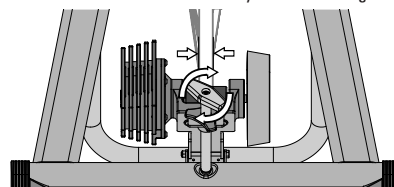

Figure 6.
Ensure that your tyre is centred on the orange roller to within 10mm (3/8 inch) from the centre of the orange roller. Your tyre must have a minimum 5mm (3/16 inch) clearance from the metal (silver coloured) roller frame. See figure 6.
9. Check that your tyre is centred on the orange roller to within 10mm (3/8 inch) from the centre of the orange roller. Your tyre must have a minimum 5mm (3/16 inch) clearance from the metal (silver coloured) roller frame. See figure 6.